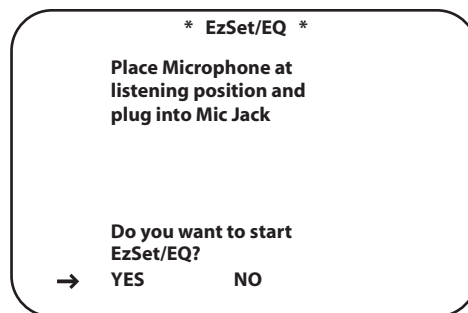

Figure 44.
**Step 4:** Once the microphone is properly positioned and plugged in, proceed to the EzSet/EQ menus by first pressing the **Menu Button 44** to bring the MASTER MENU to the screen. Next, press the **Navigation Button 16** to move the on-screen cursor to the EzSet/EQ menu line. Press the **Set Button 18** to move to the next screen (**Figure 44**).